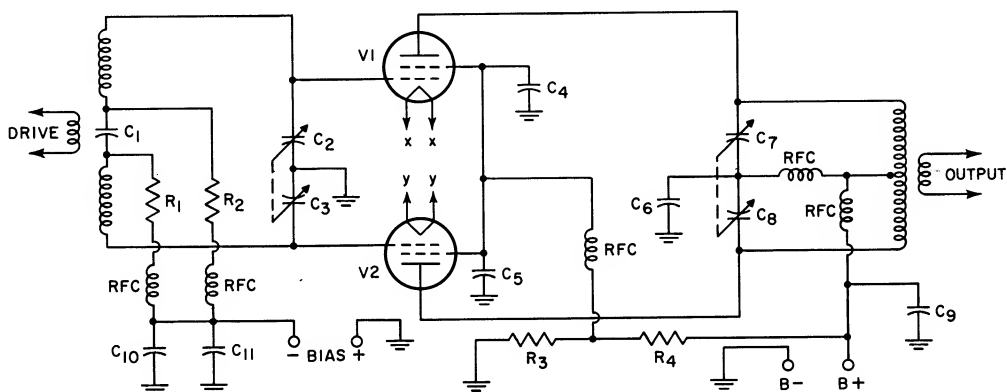

Figure 3. A transmitter final amplifier circuit.
While the transmitter circuit shown in Figure 3 may differ considerably in design from those found in many ham rigs, the measurement techniques and precautions described for it apply to all transmitter amplifiers. In all high-power equipment, checking and adjustment of ac filament voltages is especially important to tube life and performance. Grid-bias voltages are equally important because they have a direct effect upon the screen and plate dissipation of the tube under key-up conditions. The value of the grid-bias voltage also affects drive requirements and sets the operating level (class of operation) of the amplifier. In tetrodes, screen voltages should be carefully adjusted to insure that screen dissipation is kept within proper limits under both key-up and key-down conditions. Plate voltages, as well as plate current, should be determined exactly when the operating level borders on the legal input-power limit or the maximum permissible ratings for the tube type.
In setting up an rf amplifier for the first time, use the VoltOhmyst to make precautionary measurements before applying plate and screen voltages. When checking out a high-power amplifier, such as that shown in Figure 3, use the following procedure: (1) Apply filament and grid-bias voltages. Remove excitation. (2) Set up the VoltOhmyst for ac-voltage measurements. Check the filament voltage of each tube directly at the filament pins (xx) and (yy) by connecting the ground cable to one pin and the ac probe to the other pin at the same tube socket. Filament voltage should be within at least $\pm 5\%$ of the recommended voltage for the tube type. (3) If the voltage measured at either filament is off by more than $\pm 5\%$, measure the line voltage on the primary side of the filament transformers. If line voltage is correct, IR drop in the filament wiring may be responsible. In this event, replace the wiring with heavier conductors. It is also possible that one of the filament transformers may need replacement because of improper turns ratio. (4) Check the fixed grid bias by setting up the VoltOhmyst for “-DC” voltage measurements and read the voltage directly at the grid pins of both tubes. This is a wise precaution, especially in equipment which is not protected against grid-bias failure. If proper voltage is measured for both tubes, the wiring is correct and the fixed-bias supply is functioning properly.
The separate bias-supply leads feeding the two halves of the grid circuit in Figure 3 are provided as a means of checking the balance of the push-pull circuit. Do not attempt to measure total grid voltage at the grid pins when excitation is applied because of the high rf grid voltage. (5) Adjust the grid-tank tuning and the coupling to obtain the required amount of grid current in both grid-circuit legs. Remove excitation. (6) The amplifier can now be checked for plate-current cutoff or, if it is to be operated class AB or B, for the required amount of static plate current. With fixed bias applied and excitation removed, apply plate and screen voltages. Note the plate current flow, if any, and adjust the bias voltage from the supply to give the required cutoff or static current. Remove the high voltage. (7) The plate and screen circuits can now be checked with excitation applied and with the amplifier under dummy load. In circuits which employ high-perveance tubes, take care to prevent excessive plate and screen current flow while tuning. Unless dial settings of plate-tank resonant points are first established by